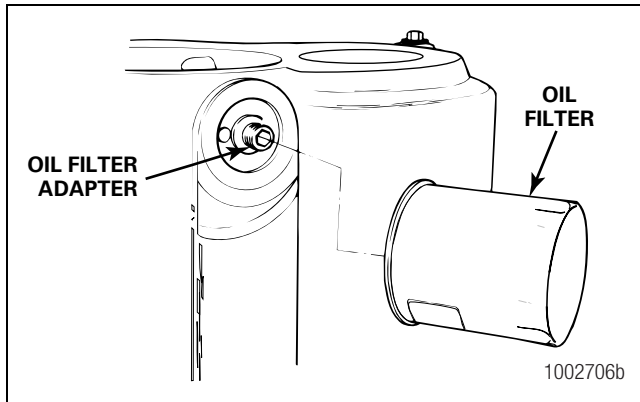

Figure 3.4
5. Use a filter strap wrench to remove the oil filter. Be careful that the oil inside does not spill when removing the filter. Discard the filter. Figure 3.4.